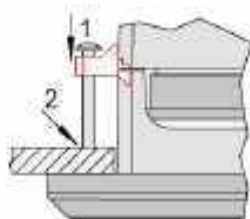

Fig. 14: Tighten clamping screws
6. Tighten the clamping screws (Fig. 14/1) until the control unit is secured to the control panel (Fig. 14/2). Over tightening of these screws may result in the clamp inserts or the housing breaking. Do not exceed the recommended tightening torque of 0.1 Nm.